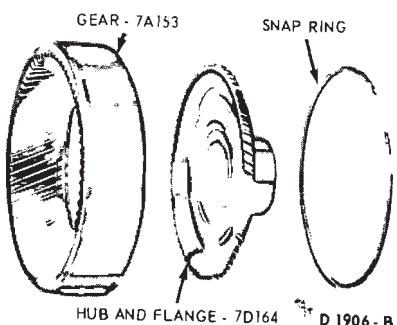

FIG. 91—Reverse Ring Gear and Hub Disassembled
2. Remove the hub from the reverse ring gear (Fig. 91).